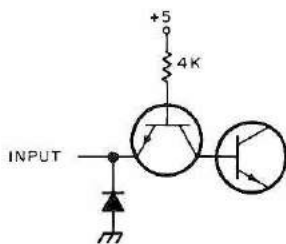
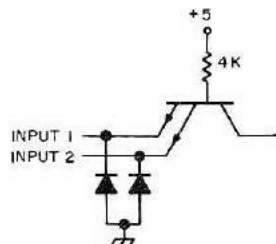

Fig. 2. Standard TTL input circuit.
Fig. 3. Input circuit of 2-input gate.
Next on the list of TTL "ins" let's investigate a typical input circuit as shown in Fig. 2. In order to guarantee that the transistor is turned on we must do two things. First, we must make the input voltage less than .8 V, and second we must draw out of the emitter 1.6 mA of current. In order to guarantee that the transistor is turned off we must also do two things. First, we must make the input voltage greater than 2 V, and second we may have to supply up to 40 μ A of leakage current. The diode is not necessarily present in all circuits. Its purpose is to limit
negative pulses on the input that may occur due to transmission line effects on long interconnections. This input characteristic is called 1 unit load (UL) and a circuit such as Fig. 2 which contains 1 UL is said to have a fan-in of 1.
If a second emitter is added to the circuit of Fig. 2 we have a 2-input gate configuration, as shown in Fig. 3. Each input has its own protection diode. If either input satisfies the "on" requirements the transistor will be on. Obviously, both inputs must satisfy the "off" requirements in order to turn the transistor off. By adding more emitters the manufacturers make multiple input gates. The 7430, for instance, has 8 emitters.